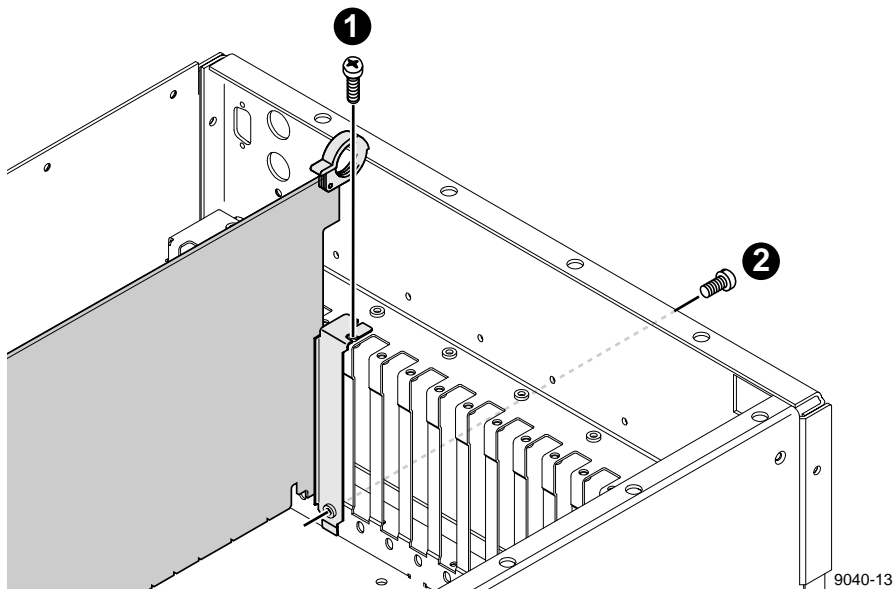

Figure 3. Screw locations for board mounting bracket
3. Remove the circuit board mounting screw inside the chassis for each Analog Audio I/O board using the Torx tool with the T15 tip (❶ in Figure 3).
2. Use the Torx tool with the T15 tip to remove the screw from the bracket inside the chassis (❶ in Figure 3) and the screw through the rear panel outside the chassis (❷ in Figure 3).
4. Use the Torx tool with the T15 tip to install the mounting screws in the top of the bracket inside the chassis (❶ in Figure 3) and through the rear panel at the bottom of the bracket (❷ in Figure 3).